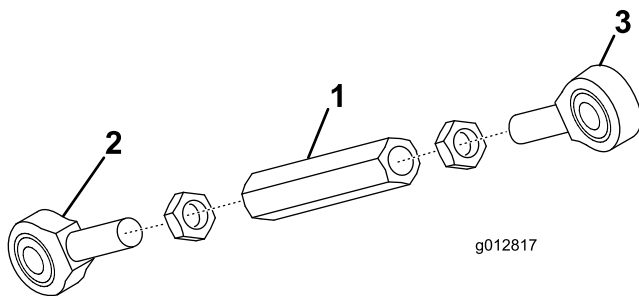

Figure 9
11. Assemble the rod ends and jam nuts to the hex tube to form the threaded link (Figure 9). The nuts and the rod ends have right and left hand threads.